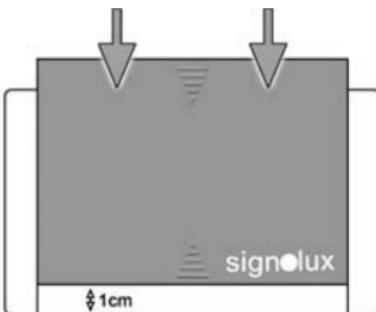

Figure 5
- Attach the plastic cover: Lay the cover onto the housing with approx 1 cm distance to the lower edge. (Figure 5)